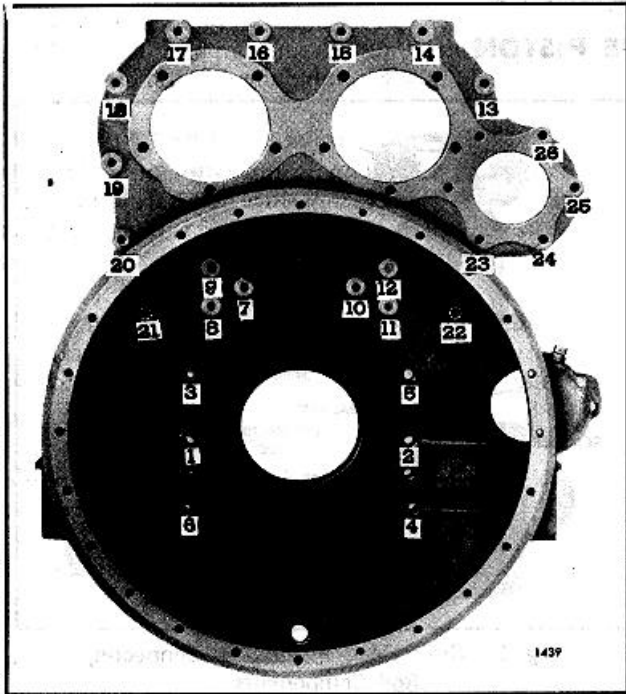

Fig. 4. Flywheel Housing Bolt Tightening Sequence (Operation 2)
10. Refer to Fig. 4 for the final bolt tightening sequence and, starting at number 1, tighten all of the bolts to the specified torque. Tighten the 3/8 "-16 idler gear hub and hole spacer self-locking bolts to 40-45 lb-ft (54-61 Nm) torque. Tighten all other 3/8 "-16 and 3/8 "-24 bolts to 25-30 lb-ft (34-41 Nm) torque, and the 1/2 "-13 bolts to 90-100 lb-ft (122-136 Nm) torque. Be sure to rotate the crankshaft when tightening the idler gear hub bolts and flywheel housing bell.